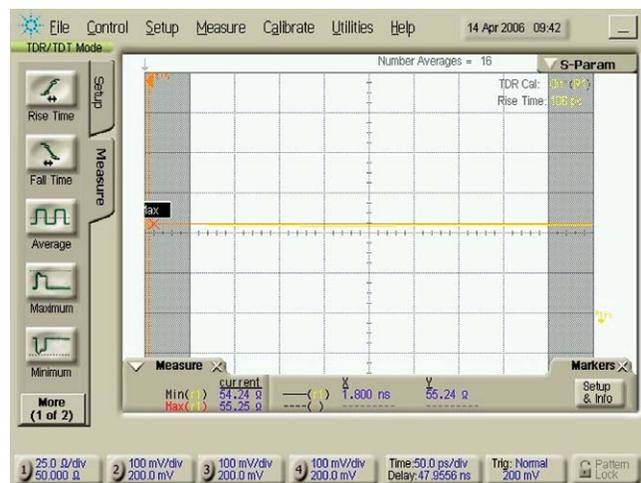

Figure 6. Cable Pair Match
- 3 Using the min/max measurement functions measure and note the minimum and maximum impedance for channel 1 (Z1 min and Z1 max). See Figure 6
- 3 Using the min/max measurement functions measure and note the minimum and maximum impedance for channel 2 (Z2 min Z2 and max). See Figure 6.
- Using the min/max measurement functions measure and note the minimum and maximum impedance for channel 3 (Z3 min and Z3 max). See Figure 6 .
- Using the min/max measurement functions measure and note the minimum and maximum impedance for channel 4 (Z4 min Z4 and max). See Figure 6.